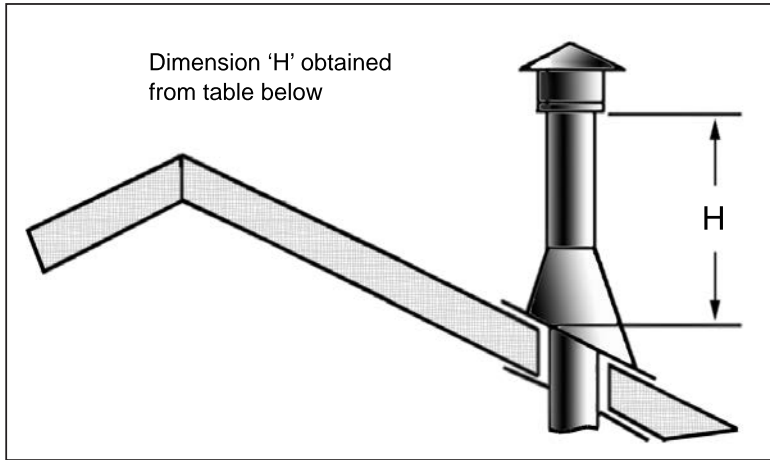

Figure 66: Height of Vertical Termination;
- Step 4.** Measure roof pitch. Select the proper flashing and storm collar and determine the height above the roof (see Figure 66). A non-corrosive pipe material must be used for all exterior pipe lengths. Seal nail heads with silicone.